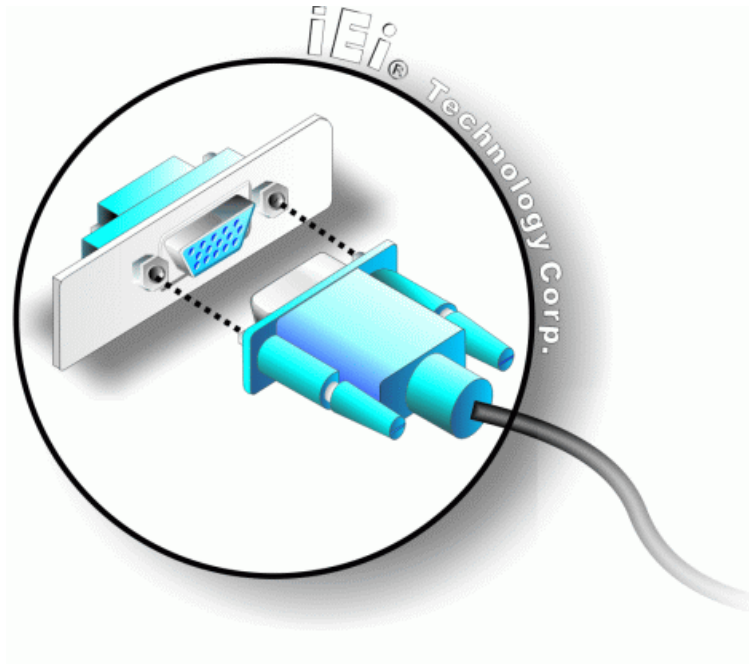

Figure 5-19: VGA Connector
Step 8: Insert the VGA connector. Insert the DB-15 connector of a VGA monitor into the DB-15 connector on the external peripheral interface. See **Figure 5-19**.